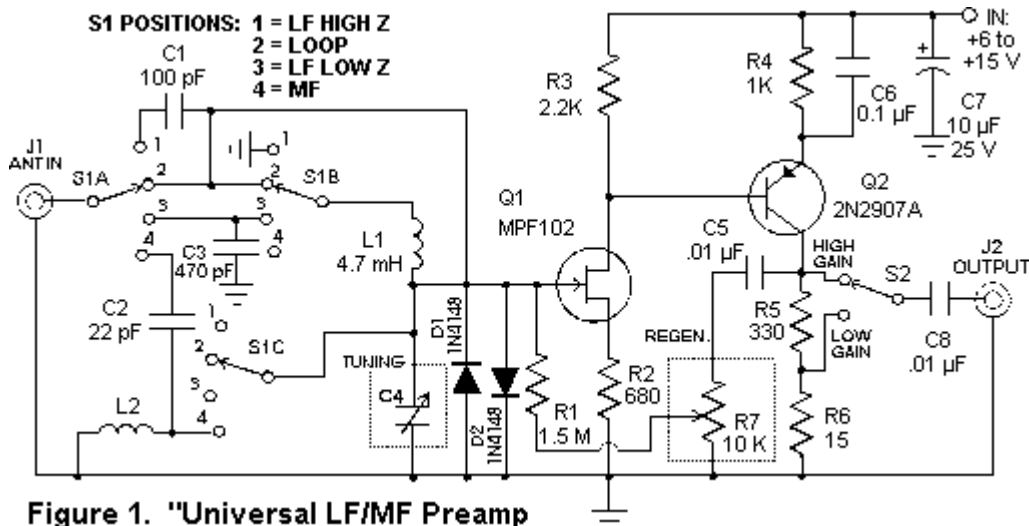
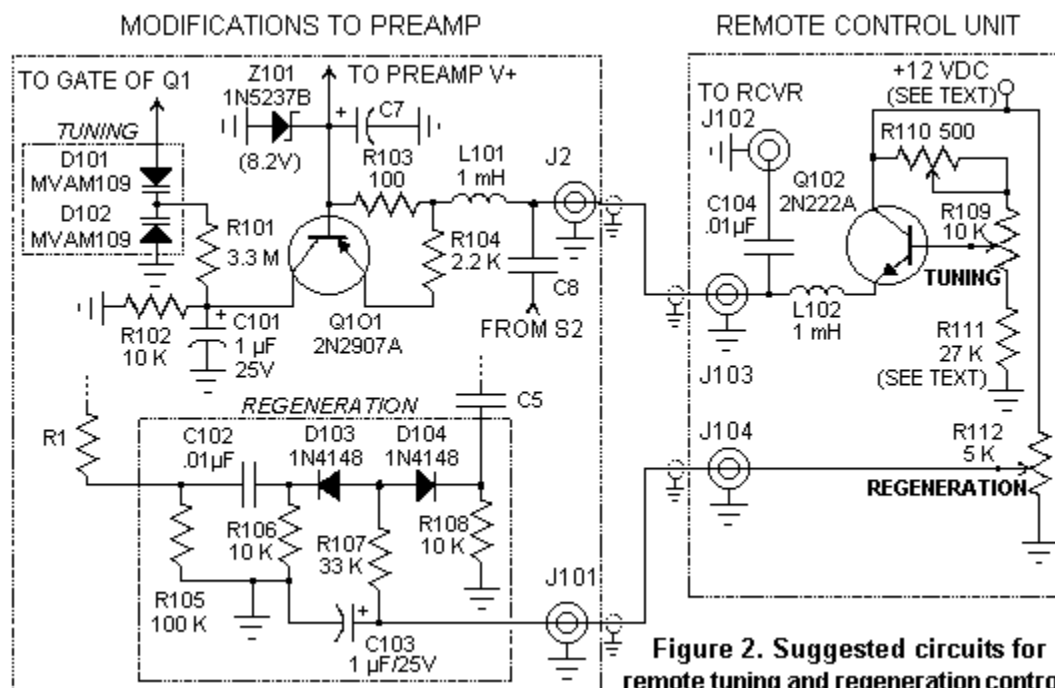

Figure 1. "Universal LF/MF Preamp
Figure 2. Suggested circuits for remote tuning and regeneration control.
The universal preamp design is shown in Figure 1. It fits on a Radio Shack No. 276-150 general-purpose IC board with room to spare. Layout isn't especially critical; just follow the usual rules of RF circuit construction. Keep all leads as short as possible, and allow a respectable distance between the input and output leads. The preamp should be enclosed in a metal box to provide shielding. Tuning and regeneration control components are shown enclosed in dotted lines. Later in this article I'll show how these circuits can be modified to allow remote operation.
Suggested circuits for remote tuning and regeneration control are shown in Figure 2. Parts with three-digit numbers are additional components needed for remote control. Single-digit part numbers refer to components previously identified in Figure 1. Remote tuning is accomplished by using a back-to-back pair of varactor diodes in place of C4. The maximum capacity of a pair of MVAM109s in series is only about 250 pF. If desired, C4 can be left in the circuit to extend the low end of the tuning range, or another pair of varactor diodes can be connected in parallel with D101 and D102. MVAM109s are available from DC Electronics at (800) 467-7736.
If you want, you can run a multiple-conductor shielded cable between the control unit and preamp, and use separate wires for power, signal and tuning. (I've used 150 feet of ordinary audio cable in my field tests of the preamp with no significant loss of signal.) Separate wires let you use a much simpler remote tuning circuit. But that's too easy. Figure 2 shows how to make one shielded wire perform multiple tasks. Q101 functions as a DC amplifier with offset, so that the tuning voltage varies
The inductance values of L101 and L102 aren't critical, but they should each have a DC resistance less than 15 ohms. Some tweaking of the nominal 12 VDC supply voltage and/or the 27 K resistor (R111) may be needed to get the full tuning voltage range in your circuit. To check the circuit, connect a DC voltmeter between the collector of Q101 and ground. With the coarse tuning pot (R109) turned fully counter-clockwise, the voltmeter should read less than 0.5 volts. As you rotate the tuning pot, the voltmeter reading should begin to rise and should be close to 9 volts with the pot fully clockwise. Increasing the value of R111 will raise the minimum tuning voltage. Increasing the supply voltage will raise the tuning voltage at all settings of the tuning pot. The 500-ohm pot (R110) in Figure 2 is a "fine tuning" control. It can be omitted if you don't plan to use regeneration.
Thanks to Bruce, AAØYB and Sam, WØIMG for leaving their beacons on during the thunderstorm season so I could perform some actual listening tests on LowFER signals. Both of their transmitters are about 95 miles from me, which provides a reliable signal path when the QRN isn't overwhelming. Using either the circuit of Figure 1 or a preamp with the remote tuning options in Figure 2, BK and SAM came in very well on a homebrew LF receiver with any of three portable loops ranging from 30 inches to 48 inches in diameter. Signals were also readable on a Radio Shack DX-440 portable receiver with all of the loops, although the 30-inch loop is pretty marginal. A 40-inch whip antenna mounted about four feet off the ground seemed to be nearly useless for LowFER reception. Extending the whip length to 11 feet brought the signals up to a readable level, but not to the QSO quality attainable with the larger loops. Maybe the whip would perform better on sky-wave signals -- we'll have to wait until next winter to find out.